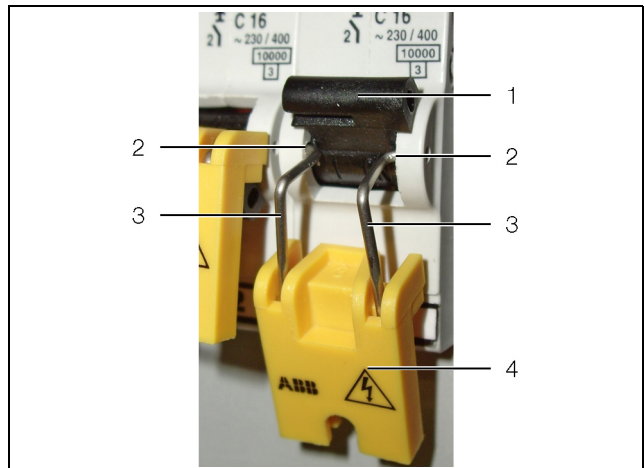

Fig. 9: Correctly fitted lockout
- Insert the lockout into the two openings (fig. 9, item 2) of the circuit-breaker case from the inside.